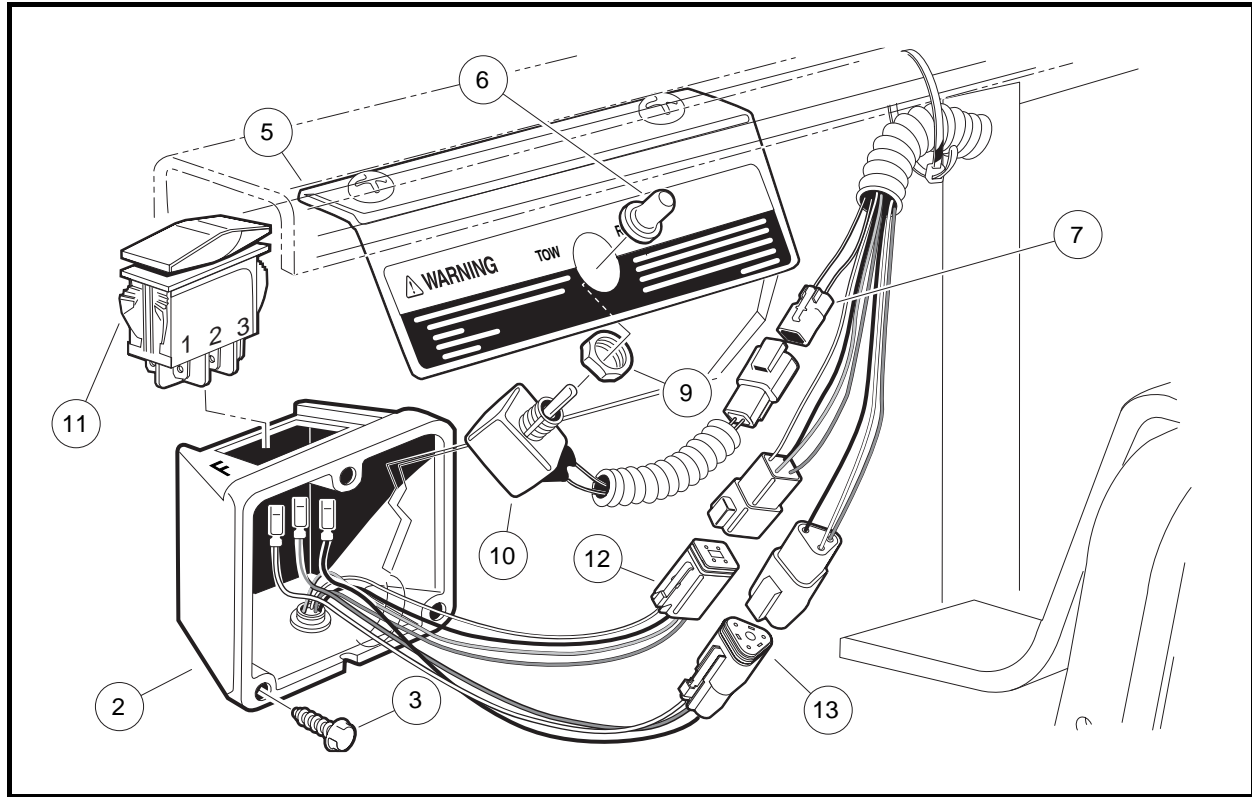

Figure 13-3 Tow/Run Switch and Forward/Reverse Rocker Switch
1. Remove three self-tapping screws (3) that hold Forward/Reverse rocker switch case (2) to body (**Figure 13-3, Page 13-4**).
3. Press the locking tabs (11) on each end of switch and push switch out of case.
1. Press the locking tabs (11) on each end of the rocker switch and push switch into case (**Figure 13-3, Page 13-4**).
3. Install the three self-tapping screws (3) that hold the Forward/Reverse rocker switch case (2) to the body. Tighten to 20 in-lb (2.3 N·m).
2. Remove Tow/Run switch boot/hex nut (6) (**Figure 13-3, Page 13-4**).
3. Remove Tow/Run switch (10) and nut (9) from bracket (5).
4. Disconnect the two-pin connector (7) and remove switch.
1. Installation is reverse of removal. Make sure groove on switch is aligned with tang on bracket. Tighten Tow/Run switch boot/hex nut (6) to 16 in-lb (1.8 N-m) (**Figure 13-3, Page 13-4**).